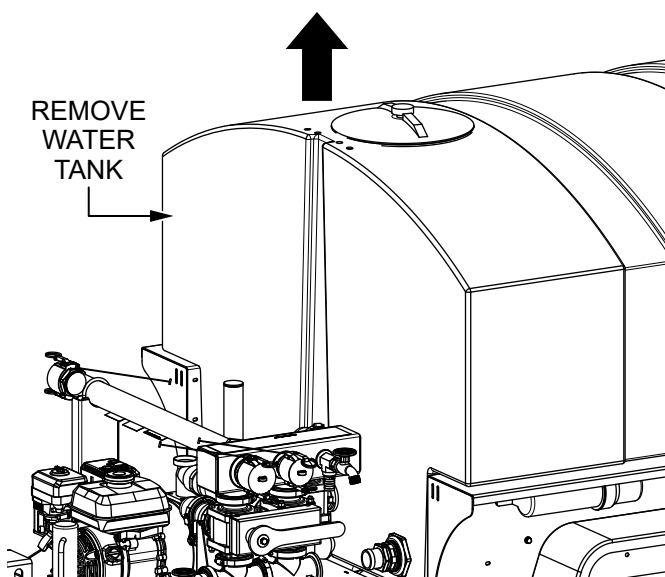

Figure 9. Remove Water Tank
9. Remove and discard the **water tank** (Figure 9).